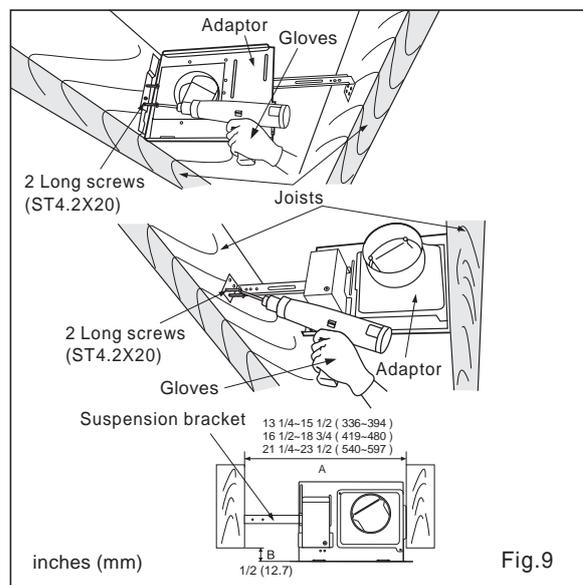

Fig.9
2. Insert the suspension bracket into the adaptor and secure it to joists by using long screws (ST4.2X20) (Fig.9) Keep the distance B (1/2 inch, 12.7mm) for the thickness of ceiling board.